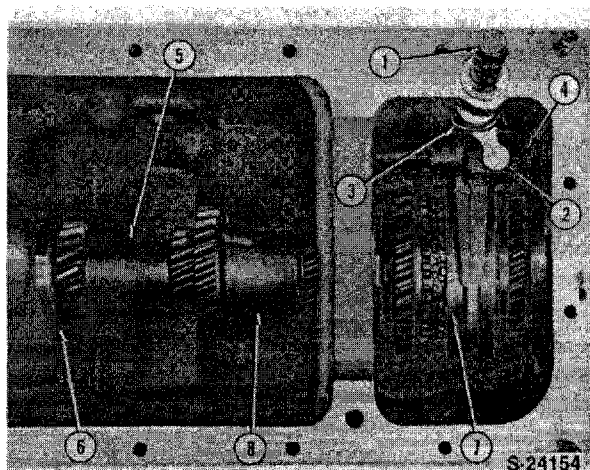

Figure 147
2. Remove the locking wire (3), Figure 147.
3. Using a small pin punch inserted through the access hole, drive the double roll pin out of the shift arm and shaft (1 and 2), and remove the shaft and arm from the case, Figure 147.
4. Drive the roll pin (4) out of the shift rail, Figure 147.
2. Remove the snap ring located behind the countershaft rear bearing (6), Figure 147.
3. Gently drive the countershaft rearward while supporting the synchronizer assembly (7) and fixed gear set (8), Figure 147.